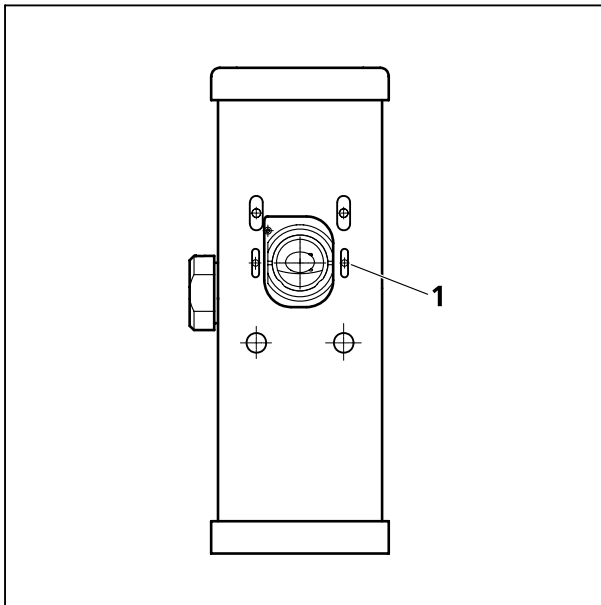

Fig. 1-20 Shutter opening on the periscope.
- Open the shutter in the periscope using an Allen key (Fig. 1-20/1) and slide in the tube completely, this will hold the shutter open.